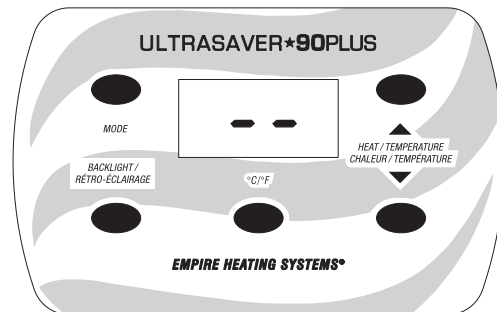

Figure 5
1. To initiate the wall furnace Remote mode, press the "Mode Select" button on the wall furnace display panel once from OFF mode to display a double dash "--". See Figure 5.